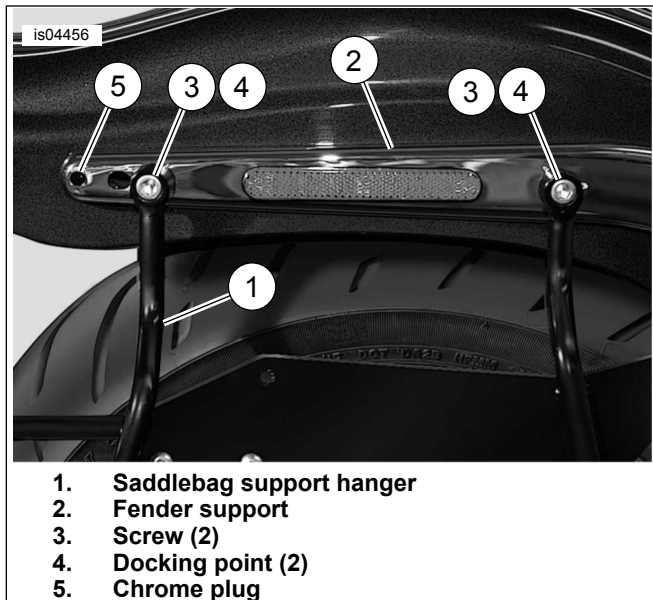

Figure 9. Install Saddlebag Support Hanger
1. See Figure 9. Install saddlebag support hanger (1) to fender support (2) and fender using two screws (3) and original stud plate.
3. If docking hardware is used, install docking points (4) between fender support and saddlebag support hanger.
4. Press chrome plug (5) from wiring kit into hole to cover original turn signal location.